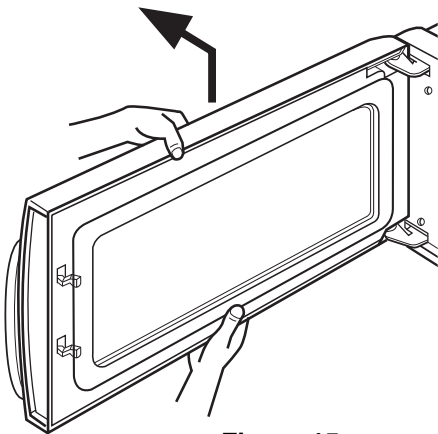

Figure 15
- (1) Remove one rivet assembly securing it to the oven upper plate by using a knife blade.
- (2) Remove the stirrer fan cover.
- (3) Remove the stirrer fan.
F. REMOVING DOOR (Figure 15)
- (1) Remove the vent grille by loosening the two screws securing it to the outer case.
- (2) Lift up and draw out the door.